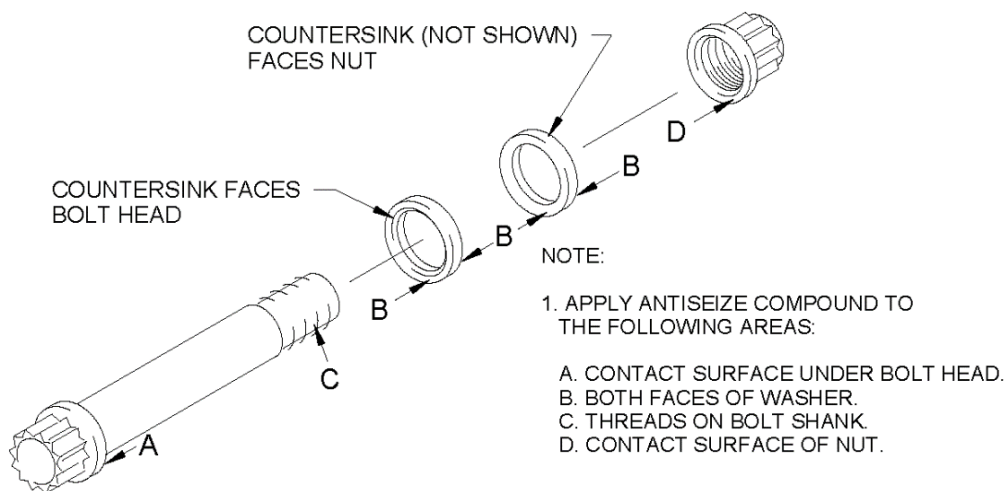

Figure 5 Apply anti-seize compound
- 1 Prior to installing, lubricate the wheel half fasteners (7), (8), (9), with anti-seize compound, per MIL-PRF-83483 as shown in Figure 5.